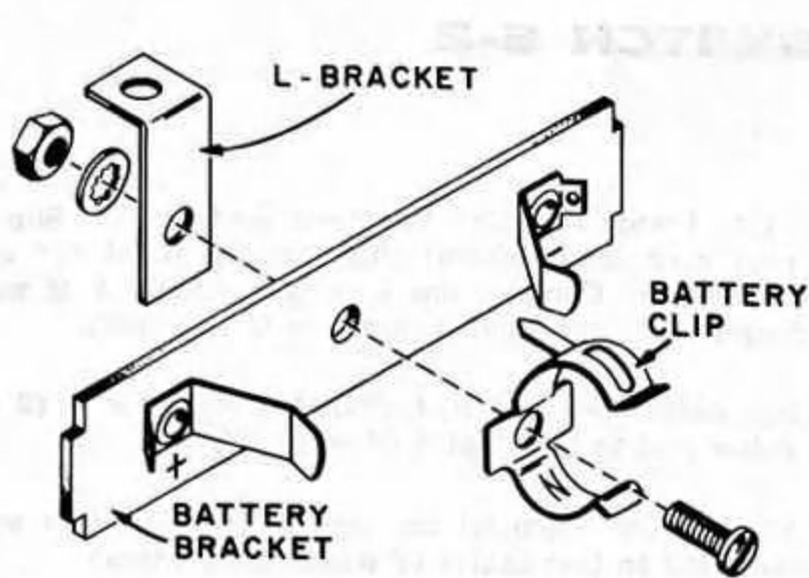

FIGURE 8
- See Figure 8. Attach the small L-bracket and the battery clip to the battery bracket with a 6-32 x $\frac{3}{8}$ " screw, lockwasher and nut as shown in Figure 8. Be sure the foot of the L-bracket is up, when the battery bracket is positioned as shown—the + terminal to the left.